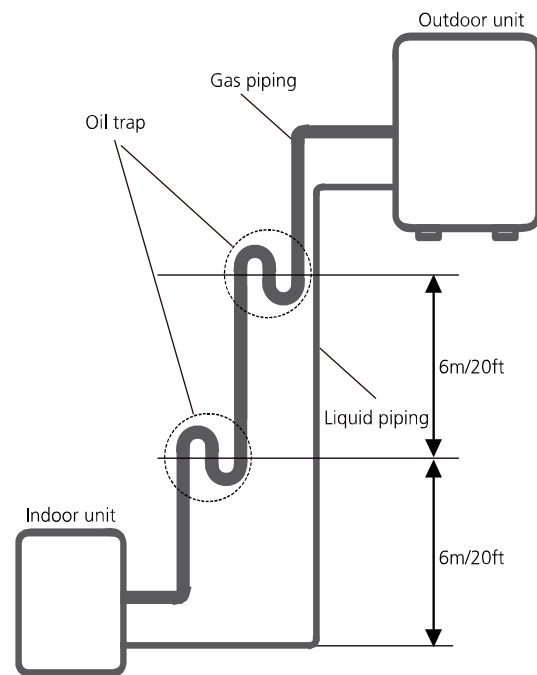

Fig. 7.3
-It is recommended that vertical suction risers not be upsized. Proper oil return to the compressor should be maintained with suction gas velocity. If velocities drop below 7.6 m/s (1500 fpm (feet per minute)), oil return will be decreased. An oil trap should be installed every 6m (20ft) of vertical suction line riser. (See Fig. 7.3)